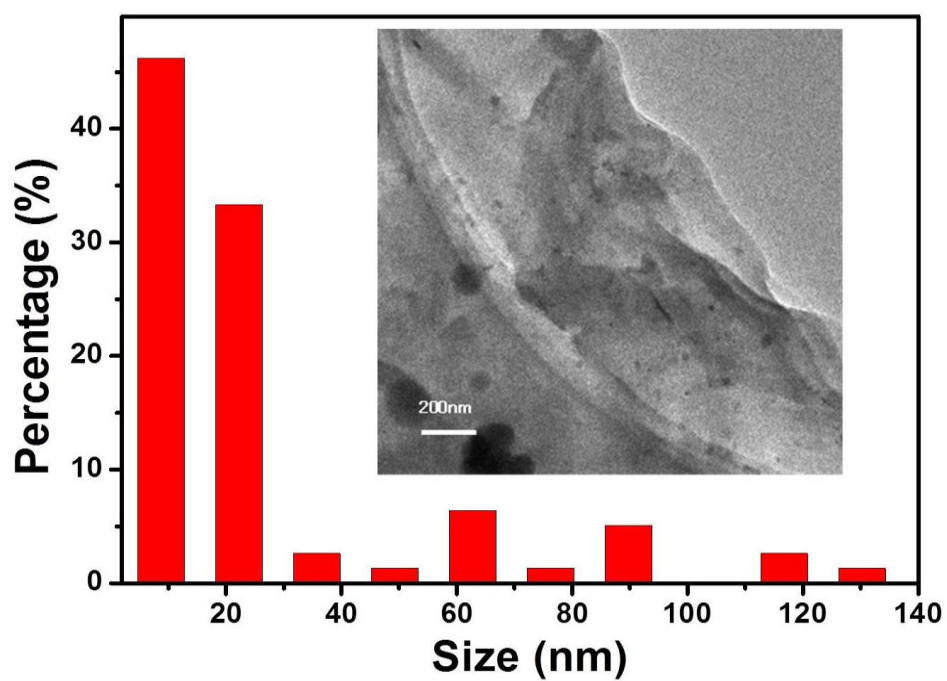

Figure S1: The TEM image (inset) and size distribution of S_{b50}.
3. TEM and size distribution of S_{b50} (Figure S1).